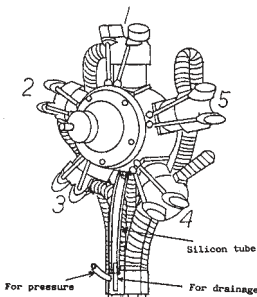

Figure 3
4. Be certain the mufflers are installed properly by oiling the threads and inserting the crush washers, and that the lines are properly connected. See Figure 3 below.